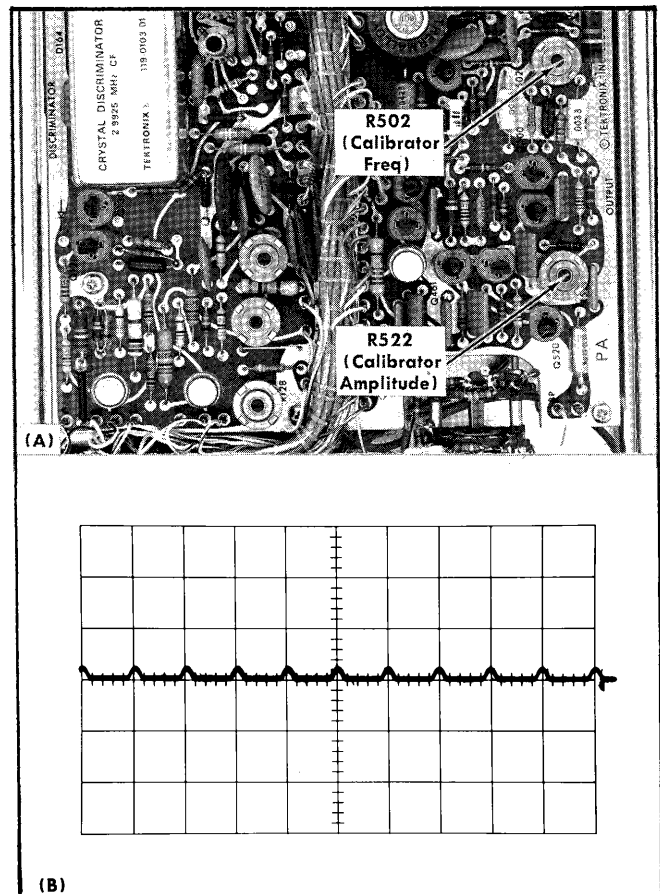

Fig. 6-15. Location of 5 kHz calibrator adjustments and typical display when checking frequency.
c. Adjust R502 (Fig. 6-15) for minimum display drift. (1 marker/cm at a sweep rate of .2 ms/cm.)
e. Adjust R522 (Fig. 6-15) for a marker display amplitude of 4 cm.